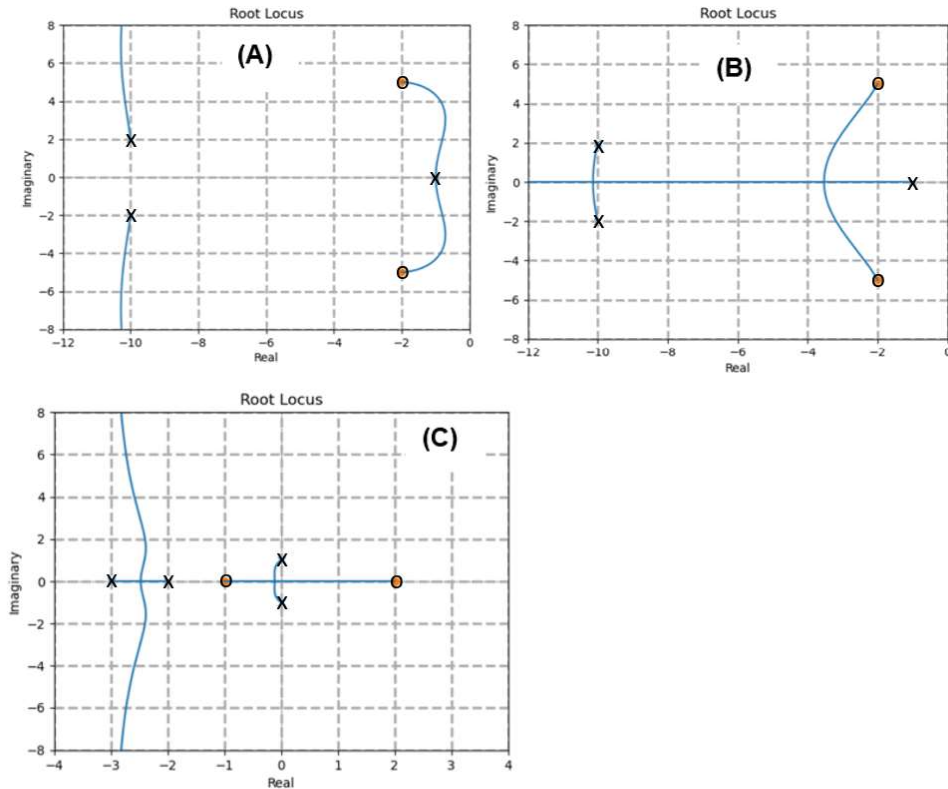

Figure J.4: The Root Locus plots.
Given the Root Locus plots of 3 systems (A), (B), and (C) in Fig. J.4. The DC-gain of both systems are 3. Determine the differential equations in the time domain for systems (A) and (B). Explain how you determined the differential equation. (Poles are marked with an 'x' and the zeros are marked with a circle 'o')